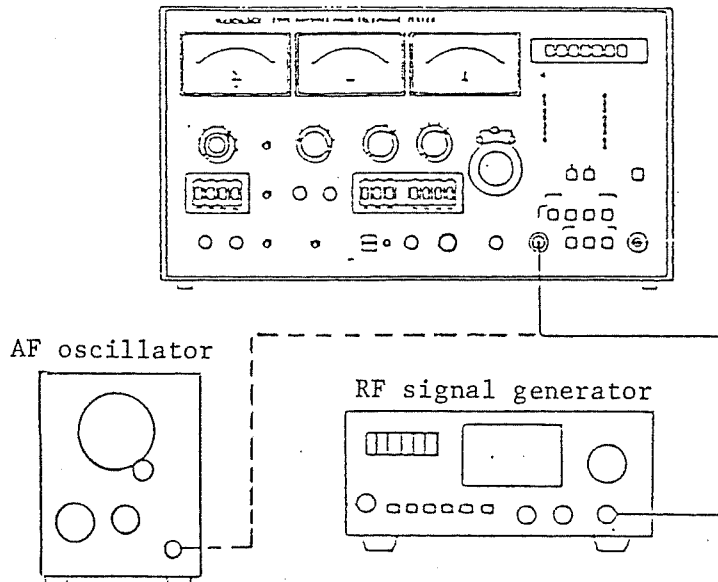

Fig. 3-23 Input level sensitivity test
- (1) Connect a RF signal generator to the [EXT INPUT] connector of frequency counter of this apparatus as shown in Fig. 3-23.
- (2) Set the controls of this apparatus as follows: